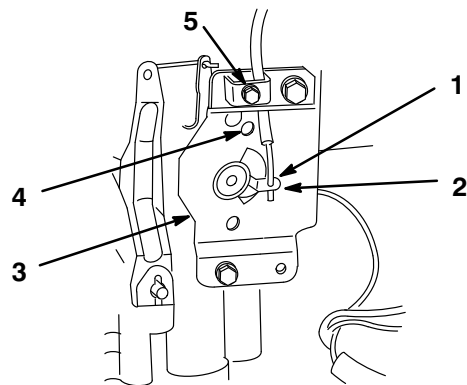

Figure 7
1. Place throttle control lever in FAST detent position.(Fig. 7).
3. Hook wire Z-bend into hole of speed control lever (Fig. 7).
4. Loosen cable clamp screw allowing cable installation, but do not tighten (Fig. 7).